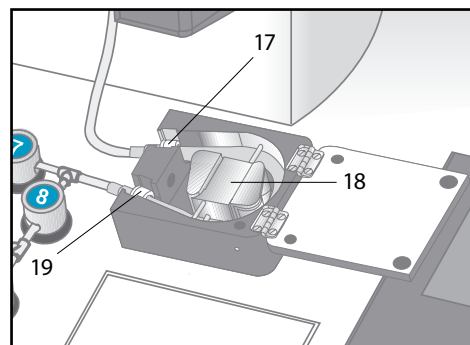

Figure 11: Loading of pump tubing.
2. Insert the upper retaining ring on the pump tubing into the retaining ring groove (17, fig. 11) on the pump housing.
3. Rotate the pump roller clockwise (18, Fig. 11) until the tubing is threaded between both sets of the tubing guide pins and the tubing fits snugly around the pump roller. Ensure the tubing is not pinched at the end of the guide pins. If adjustment of the tubing inside the pump is necessary, the tubing can be unloaded by lifting the lower end and turning the pump roller anti-clockwise.
4. Insert the lower retaining ring on the pump tubing into the retaining ring groove (19, fig. 11) on the pump housing.